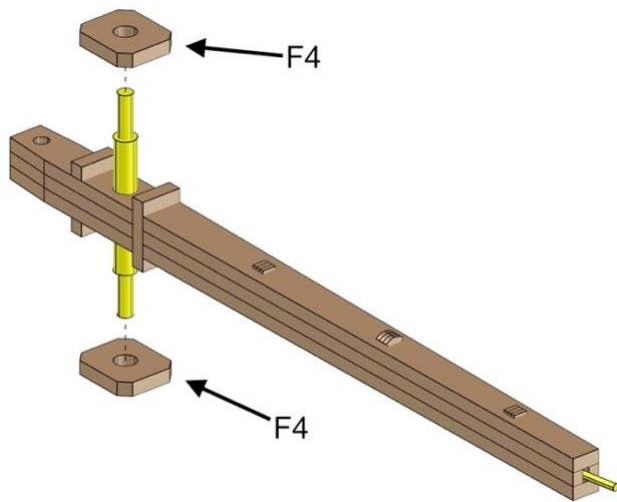

Fig. 62
- Align parts exactly as shown in *Fig. 62*.